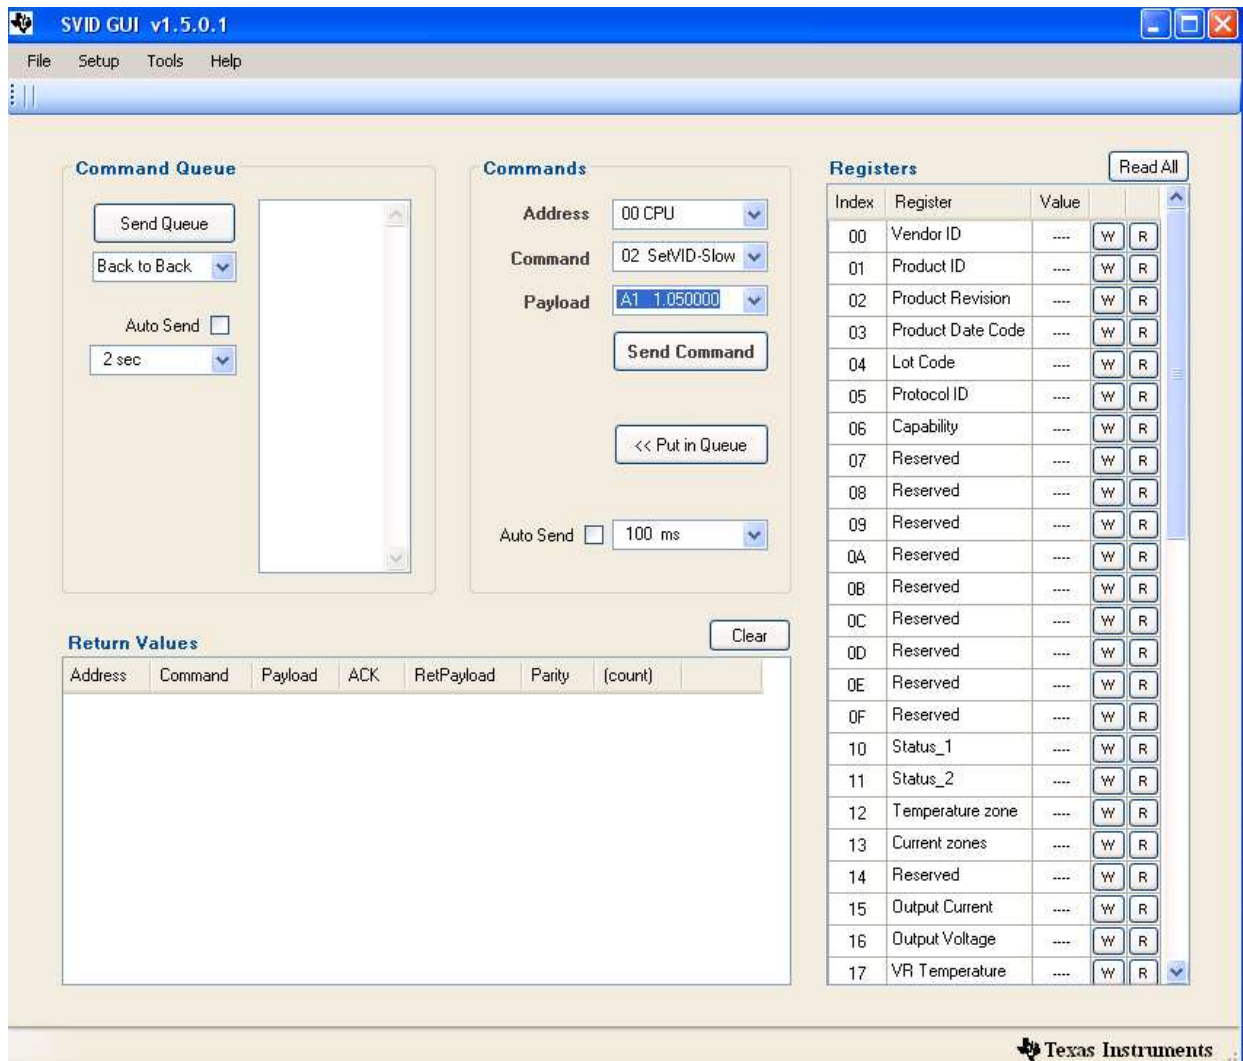

Figure 18. TPS59640EVM-751 CPU GUI Setup Window
10. Double-click the TI-SVID-GUI_1_5_0_1.exe to launch the GUI program. The GUI window shown in Figure 18 appears.
13. Click *send Command*, and the CPU CPGOOD LED lights up. See the GUI window as shown in Figure 18.